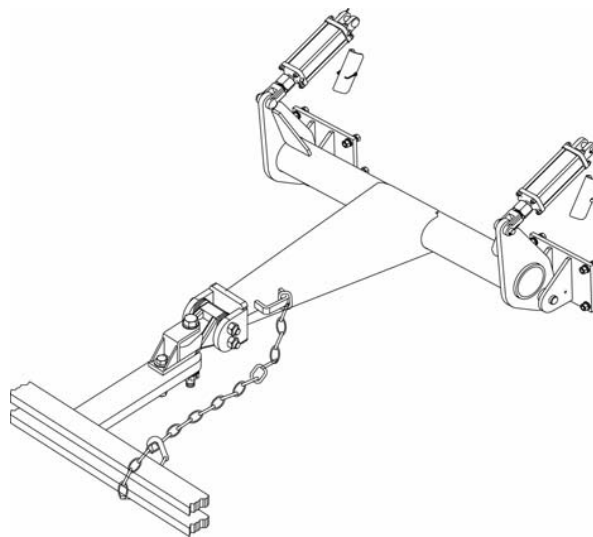

Figure 11 - Safety Chain Attachment.
5. Install the safety chain from loop on defoliator to tractor drawbar as shown in Figure 11.